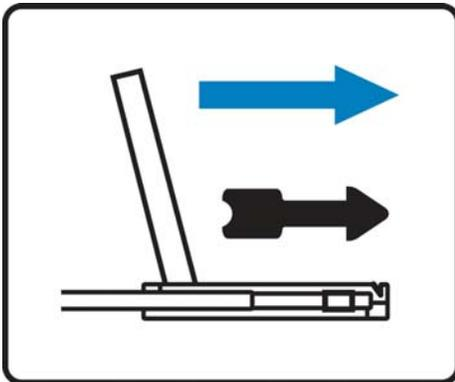

Figure 13
- Pull and hold the black arrow button on either side of the LCD keyboard drawer to unlock. (shown in **Figure 13**).